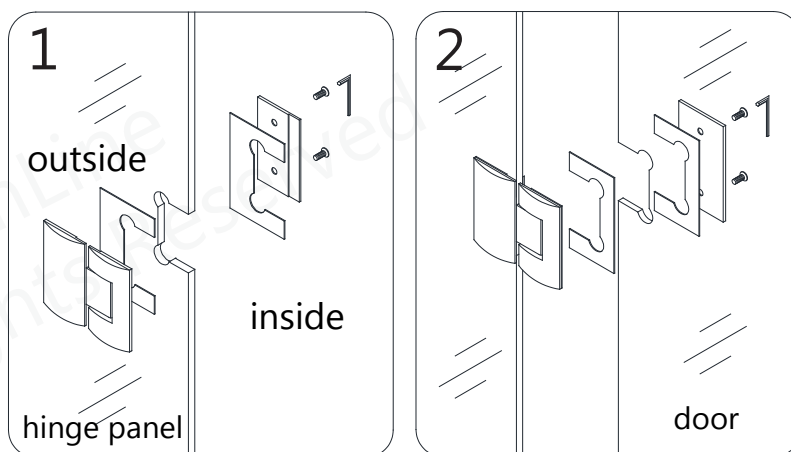
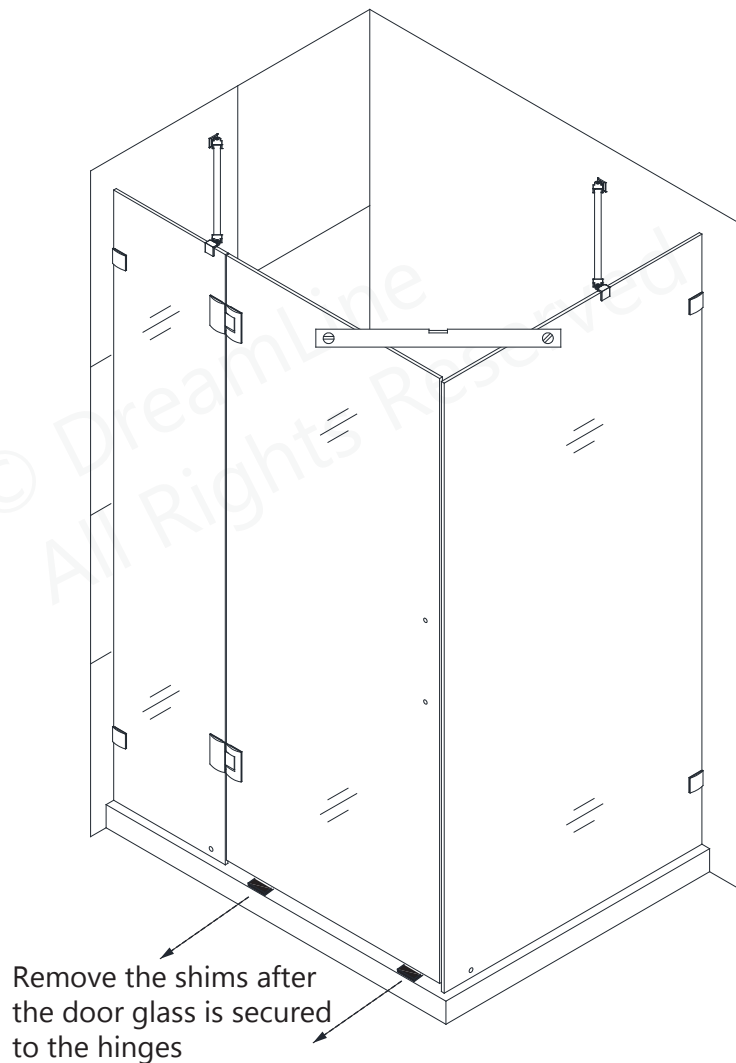

Fig 8a
Fig 8c
8. Attach the **Hinges (#06)** to the **Hinge Panel Glass (#01)** (with the bolts facing inside the shower). Use at least one gasket per side. Make sure that the hinges are flush to the edge of the glass and level. Carefully bring the **Door Glass (#02)** into the shower between the two stationary panels. Level up the **Door Glass (#02)** next to the **Hinge Panel Glass (#01)** and fasten the hinges onto the **Door Glass (#02)**. Make sure the top edges of the **Door Glass (#02)** and both **Glass panels** are flush and level. (**Fig 8a, Fig 8b and Fig 8c**)